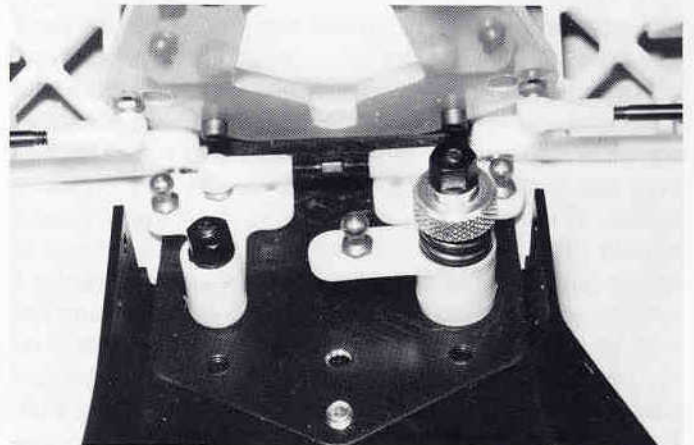

Fig. 35
□ **Fig. 35** (1) Slip the completed servo saver assembly down onto the two #7306 servo saver mounting screws (that bolt the nose plate assembly to the chassis). (2) From bag #7-2 take out two #6222 4-40/5-40 black self-threading nylon locknuts. Thread one onto each of the servo saver mounting screws. Tighten the nuts down just enough to remove any excess up and down play in each servo saver arm, but **NOT TOO TIGHT**. The servo saver arms should be able to swing to the left and right very freely and be parallel when installed.